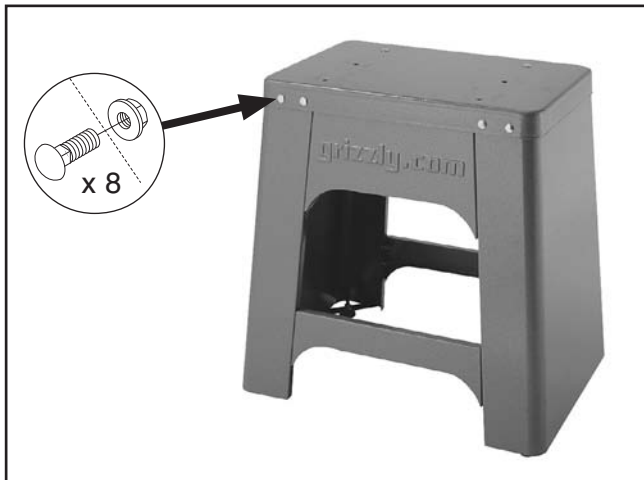

Figure 11. Stand top attached.
- Turn the stand assembly upright and attach the top, as shown in **Figure 11**, with (8) $\frac{5}{16}$ "-18 x $\frac{5}{8}$ " carriage bolts and (8) $\frac{5}{16}$ "-18 flange nuts.